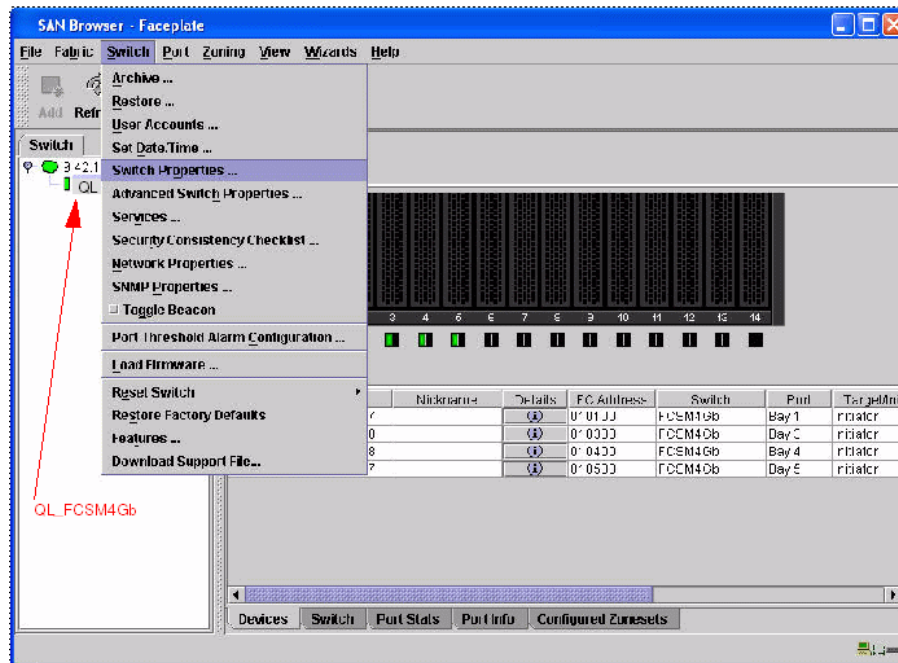

Figure 7-14 SAN Browser - Faceplate window
1. Launch your switch's IP address from your browser. Enter the IP Address, Login Name, and Password. Click **Add Fabric** to continue (Figure 7-14 on page 182).
- From the Topology window in the left pane, click the drop down tree and double-click the IP address. Next, select your switch (in our example, QL_FCSM4Gb). Select **Switch** → **Switch Properties...** (Figure 7-14).